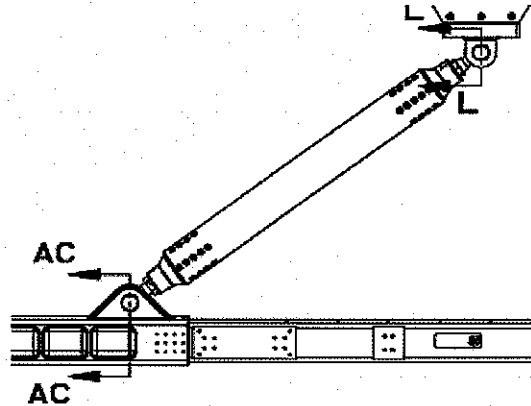

Figure 1-1
<p>4. Remove the two (2) Diagonal Strut Assemblies SEG39135741-301. As per figure 1-1, remove cotter pins (55), nuts (42) and washers (44) from both ends JH 8-24-07</p>